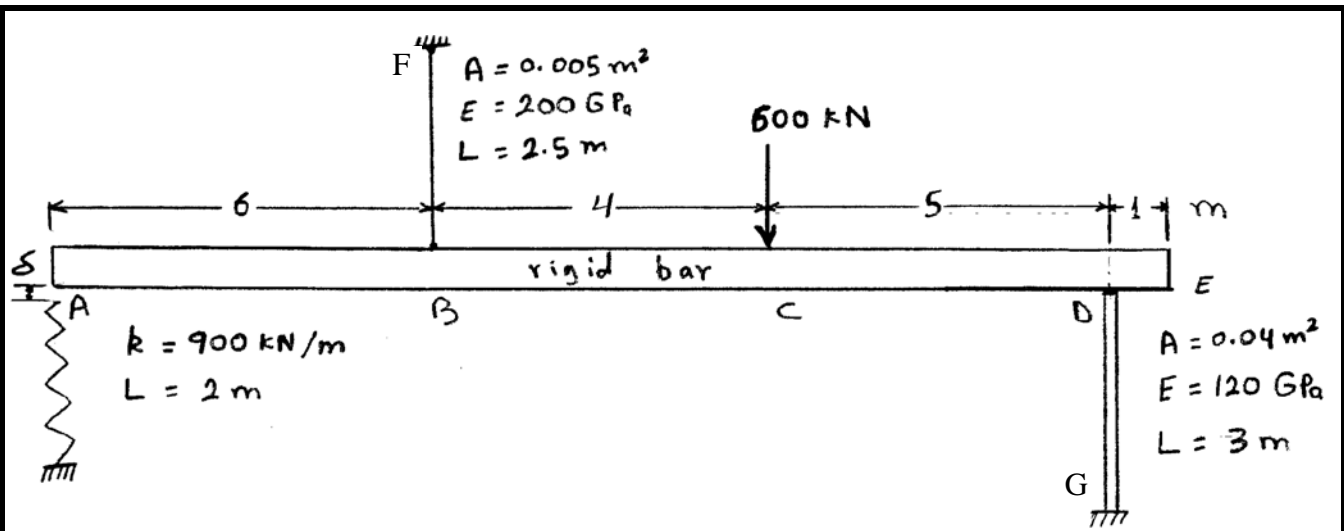

Fig. P2
- 2) In Fig. P2 shown, determine the stresses in BF and DG and the force in the spring if